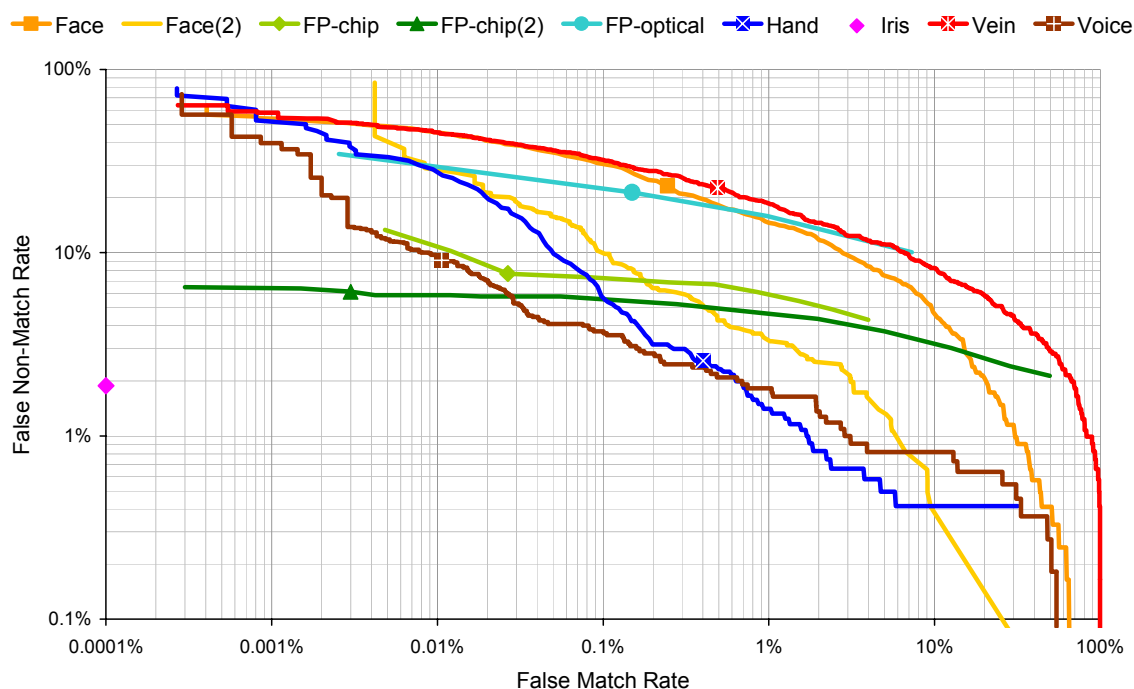

Figure 4. Detection error trade-off: FMR vs FNMR
33. Matching algorithm performance for each system, over a range of decision criteria, is shown in Figure 4. (The lower and further left on the graph, the better the performance). The node on each curve shows performance at the default decision threshold. No curve is shown for the Iris system, which operates with a pre-determined threshold. The iris system had no false matches in over 2 million cross-comparisons. For all the other systems the leftmost point on each curve represents a single false match in the total number of cross-comparisons made.